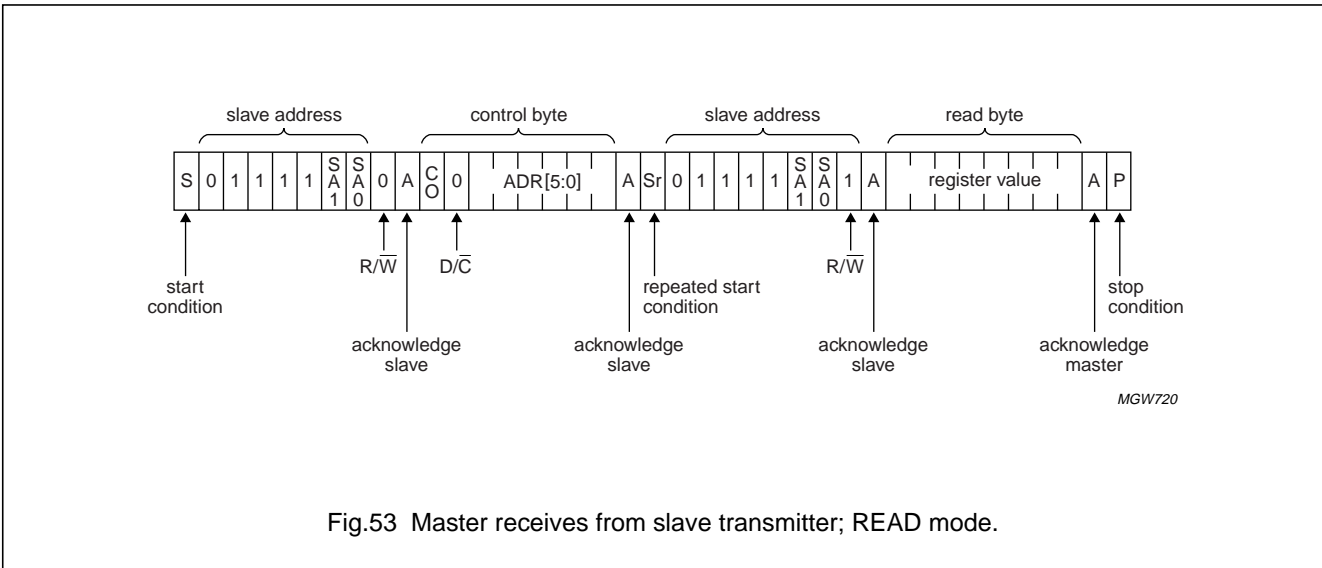

Fig.53 Master receives from slave transmitter; READ mode.
A write sequence after the Hs-mode is selected (see Fig.53) is initiated with a START condition (S) from the I²C-bus master and this is followed by the slave address. All slaves with the corresponding address acknowledge in parallel, all the others will ignore the I²C-bus transfer.
A read sequence (Fig.53) follows after the Hs-mode is selected. The PCF8832 will immediately start to output the requested data until a NOT acknowledge is transmitted by the master. Before the read access, the user has to set the D/ \bar{C} bit to the appropriate value by a preceding write access. The write access should be terminated by a repeated START condition so that the Hs-mode is not disabled.